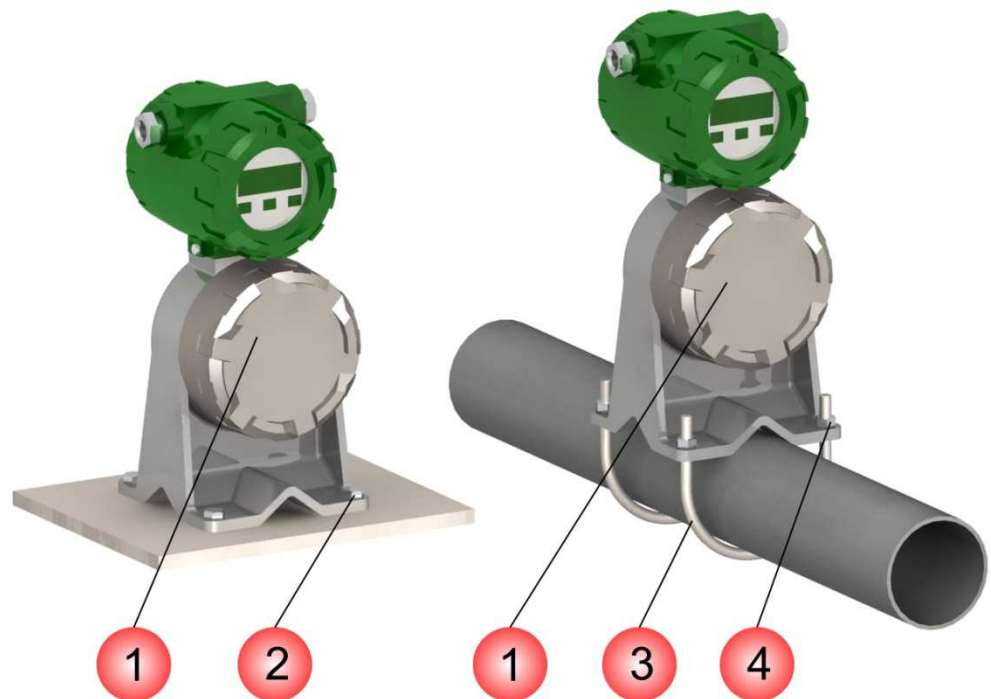

Figure 2.7 – Installation of transmitter of separate type modification
Transmitter of the separate type of the flowmeter can be mounted as shown in Figure 2.7. Transmitter can be mounted with brackets or clamps to the rack, pipe or wall.
**Table 2.4 – Notes for Figure 2.7**